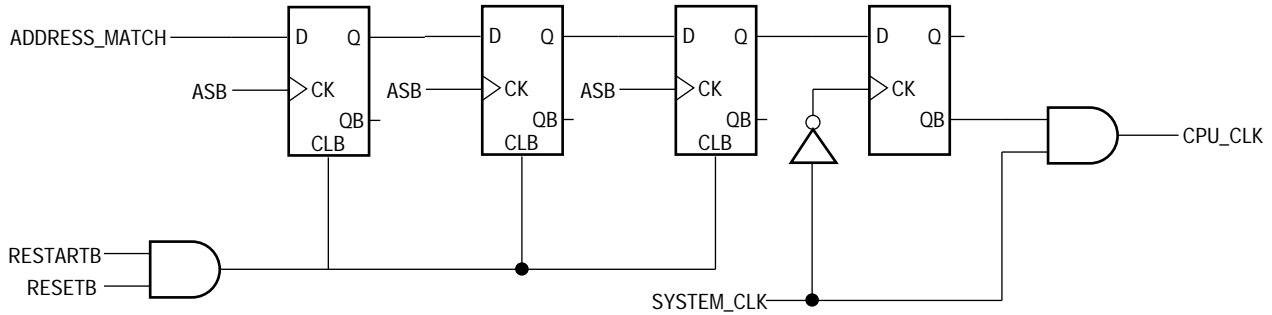
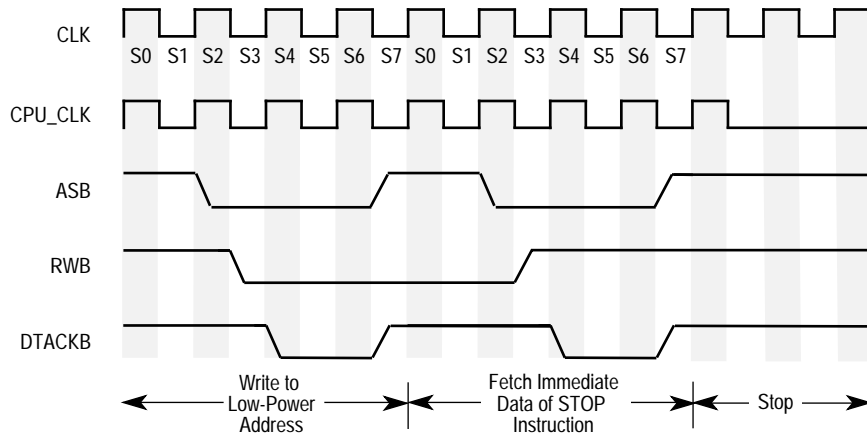

Figure 2. Low-Power Circuitry for 8-bit data bus
Figure 3. Clock Stop Timing for 16-bit Data Bus
- 1.) Externally detect a write to the low-power address. This address should be chosen by the user and can be any address in the 4 Gbyte addressing range of the SCM68000. A write to the low-power address can be detected by polling A31–A0, RWB, and FC2–FC0. When the low-power address is detected, RWB is a logic low, and the function codes have a five (101) on their output, then the processor is writing to the low-power address in supervisor mode and user-designed circuitry should assert the ADDRESS\_MATCH signal shown in Figure 1 and Figure 2.
- 2.) Execute the STOP instruction. The external circuitry shown in Figure 1 and Figure 2 will count the number of bus cycles starting with the write to the low-power address and will stop the processor's clock on the first falling edge of the system clock after the bus cycle that reads the immediate data of the STOP instruction. Figure 2 has one more flip-flop than Figure 1 because the SCM68000 in 8-bit mode requires two bus cycles to fetch the immediate data of the STOP instruction. After the processor's clock is disabled it is often desirable to disable the clock to other sections of the user's circuit. This can be done, but care must be taken to ensure that runt clocks and spurious glitches are not presented to the SCM68000. A timing diagram is shown in Figure 3.